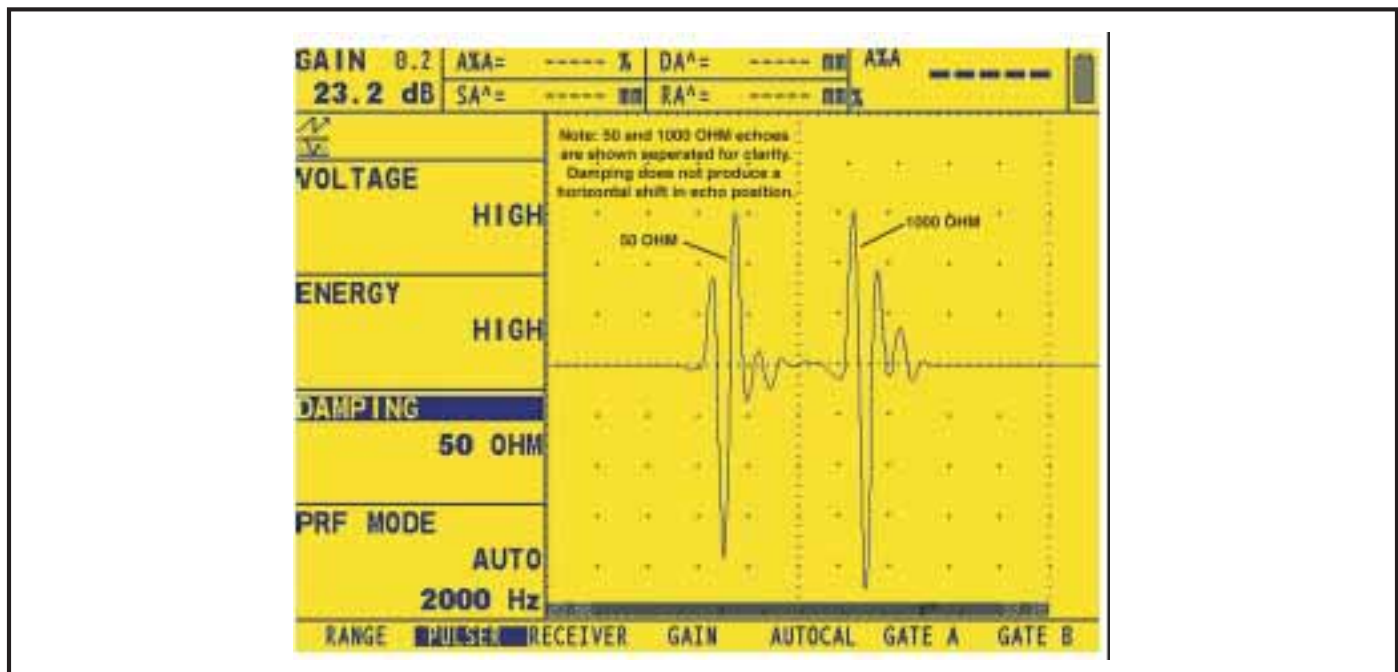

Figure 44: Typical Effects of Damping Changes
- **50 or 1000  $\Omega$**  (see Figure 44 below)
Rectification effects the orientation of the A-scan on the display screen. The A-scan represents the sound pulse (echo) that's returned from the material being tested to the instrument. The series of echoes looks like the *Radio Frequency (RF)* signal that's shown in Figure 44 on the previous page. Note that the RF signal has a negative component below the axis, and a positive component above the axis. In RF mode, the A-gate and B-gate can be positioned either above or below the axis, to be triggered by a positive-heading echo or a negative-heading echo.
3. Press  next to the function titled RECTIFY (Figure 44). You'll note that there are four options: